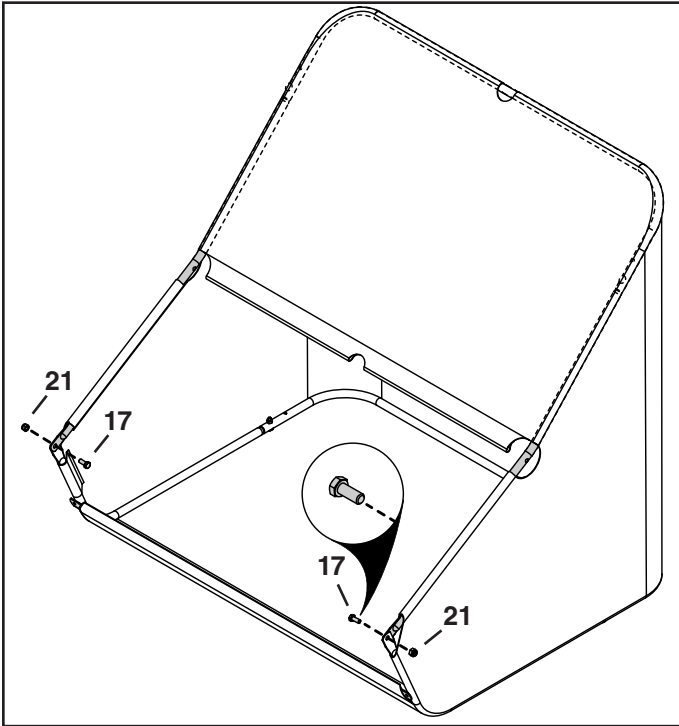

FIGURE 13
21. Secure the upper and lower hopper tubes together using two 5/16" x 3/4" hex bolts (17) on the inside and two 5/16" nylock nuts (21) outside. See figure 13.